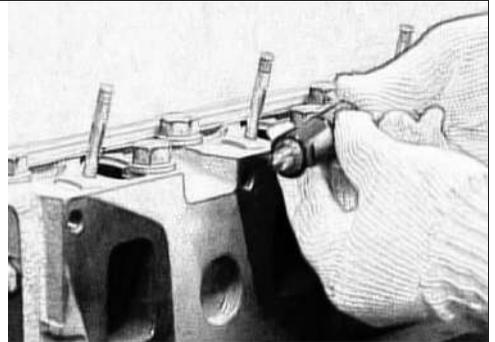

Fig 5-43 Injector Installation
5.8 When installing injector, keep the injector hole clean. Install copper seal gasket at front end of injector, and then install the injector into cylinder head carefully. Tighten pressure plate screw firmly (see Fig 5-43).